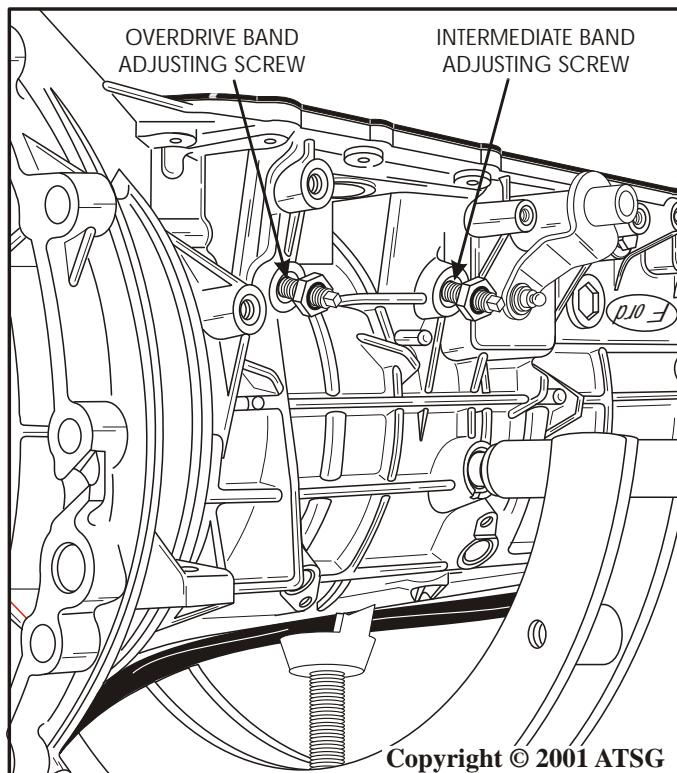

Figure 170
63. Install new locking nuts on both band adjusting screws, using care not to let the adjusting screw come out, so that the band anchors will not fall out and into transmission (See Figure 170).
64. Adjust the overdrive band by turning adjusting screw in while holding the lock nut. Torque the adjusting screw to 14 Nm (10 ft.lb.) and then back out ***exactly*** 2 full turns for W/S models in trucks and 1-1/2 turns for S models in cars. Refer to Figure 170.
65. Adjust intermediate band by turning adjusting screw in while holding the lock nut. Torque the adjusting screw to 14 Nm (10 ft.lb.) and then back out ***exactly*** 2 full turns for W/S models in trucks and 1-1/2 turns for S models in cars. Refer to Figure 170.